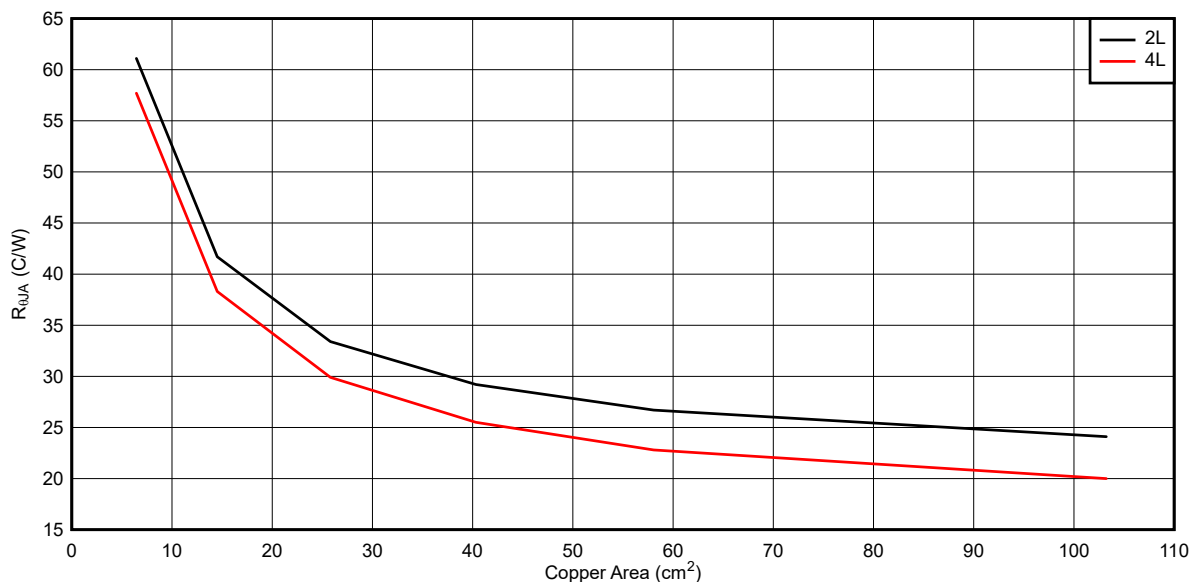

Figure 9-15. Typical $R_{\theta JA}$ vs Copper Area
The LM5013 features a die attach paddle, or "thermal pad" (EP), to provide a place to solder down to the PCB heat-sinking copper, which provides a good heat conduction path from the regulator junction to the heat sink and must be properly soldered to the PCB heat sink copper. Typical examples of $R_{\theta JA}$ can be found in Figure 9-15. The copper area given in the graph is for each layer. The top and bottom layers are 2-oz. copper each, while the inner layers are 1 oz. Remember that the data given in this graph is for illustration purposes only, and the actual performance in any given application depends on all of the previously mentioned factors.
the curves in Application Curves, an efficiency of about 92% was found at an input voltage of 48 V with output of 12 V with 1.75-A load. The efficiency is somewhat less at high junction temperatures, so an efficiency of approximately 90% is assumed, which gives a total loss of approximately 2.3 W. Subtracting out the conduction loss alone for the inductor and catch diode, the user arrives at a device dissipation of approximately 1.54 W. With this information, the user can calculate the required $R_{\theta JA}$ of about 30°C/W. Based on Figure 9-15, the required copper area is approximately 40 cm² for a two-layer PCB.